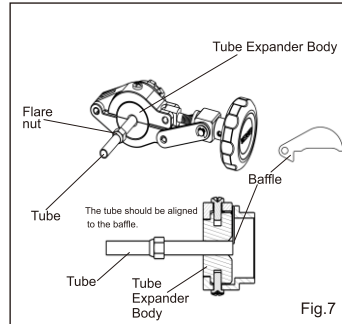

Fig.7
2.1.1 Choose an expander body that is compatible with the tube size, and then place the tube to make sure that the tube end and baffle at the same level (Fig. 7)